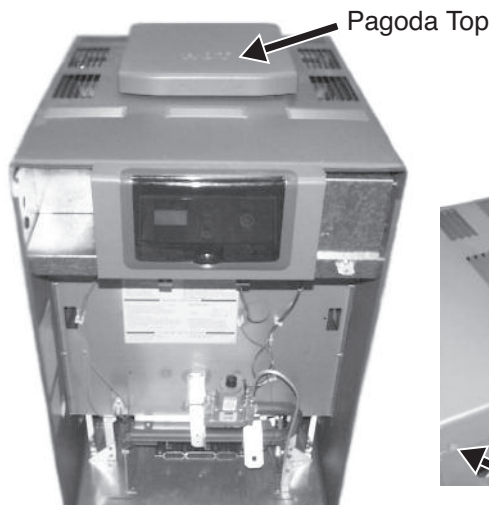

Fig 2
3. If this is a retro-fit application, remove existing "Pagoda Top" and discard. See Fig. 2. If equipped with a draft hood, refer to draft hood installation manual for removal process.